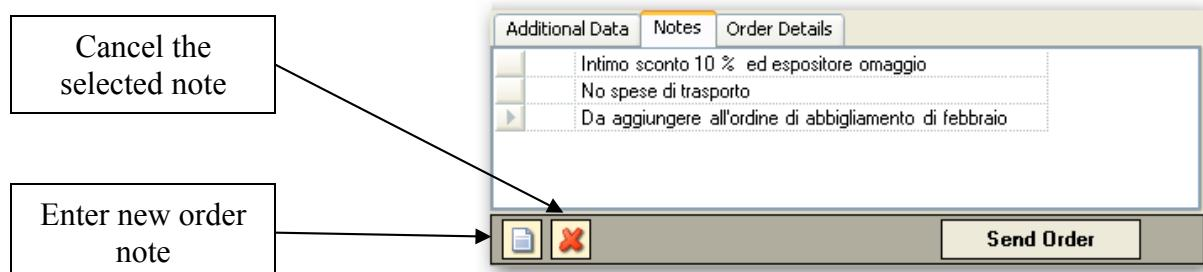

Fig. 12 - Order information notes
3. **Entering 'Order information notes'**: to enter a new note, click on the bottom-left button in the window (Fig. 12). Notes are not mandatory but can be used to add additional information to the order.